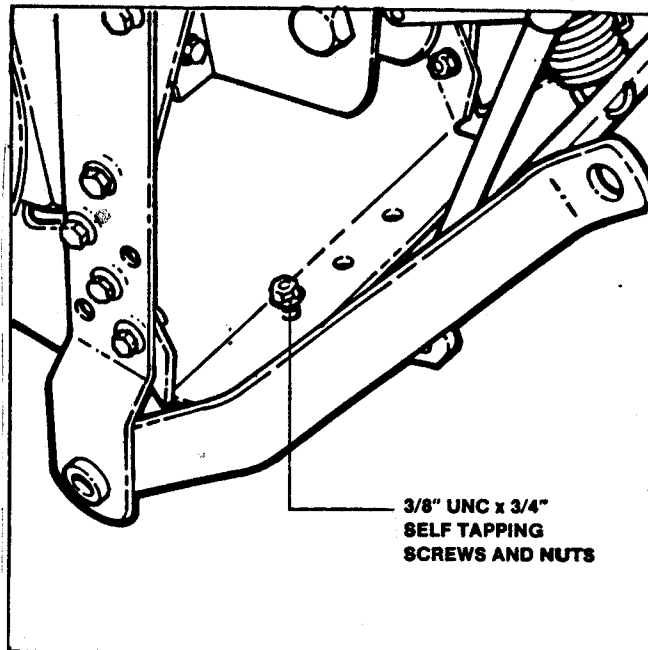

FIGURE 3
3. Slide the three point hitch over the four (4) rear plate bolts and insert the two (2) self-tapping 3/8" UNC x 3/4" screws (Part number 9-0815) and nuts (Part number 9-0613) into the draw-bar. See Figure 3. Mount nuts onto the rear plate bolts and tighten.